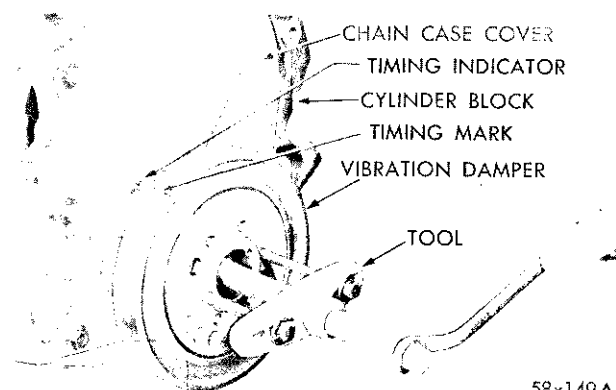

Fig. 23—Removing Vibration Damper Assembly Using Tool C-3033
(1) Drain the cooling system and remove the radiator and water pump assembly.
(2) Remove the crankshaft vibration damper attaching bolt.
(3) Remove two of the pulley bolts, install Tool C-3033, and pull the damper assembly off the end of crankshaft, as shown in Figure 23.
(4) Remove the chain cover and gasket.
(5) Slide the crankshaft oil slinger off end of crankshaft.
(6) Remove the camshaft sprocket attaching bolt.
(7) Remove timing chain with crankshaft and camshaft sprockets.